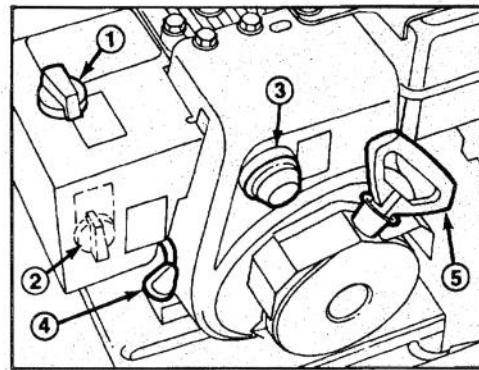

Figure 13
Throttle (Fig. 13) — Moving the throttle upward increases engine speed. Use only enough engine speed to throw snow to the place desired.
Choke (Fig. 13) — Choke for engine is located on heater box. Rotate choke to FULL choke position to start a cold engine. As engine warms up, move choke gradually to OFF.
Primer (Fig. 13) — Press primer to pump small amount of gasoline into engine for improved cold weather starting.
Recoil Starter (Fig. 13) — Recoil starter is on back side of engine. Pull recoil starter to start engine.
2. Move throttle to FAST (Fig. 13).
4. Rotate choke to full choke position (Fig. 13).
6. Depress primer (Fig. 13) five times.
7. Grasp recoil starter handle (Fig. 13) and pull it out slowly until positive engagement results; then pull vigorously to start the engine. Keep firm grip on starter handle and return the rope slowly.
8. After engine starts, immediately rotate choke (Fig. 13) to 3/4 position. As engine warms up, rotate choke to 1/2 position; then to OFF position. If engine falters, return choke to 1/2 position. When engine warms sufficiently, rotate choke to OFF position.
2. Move throttle to slow and rotate ignition key to OFF (Fig. 13).